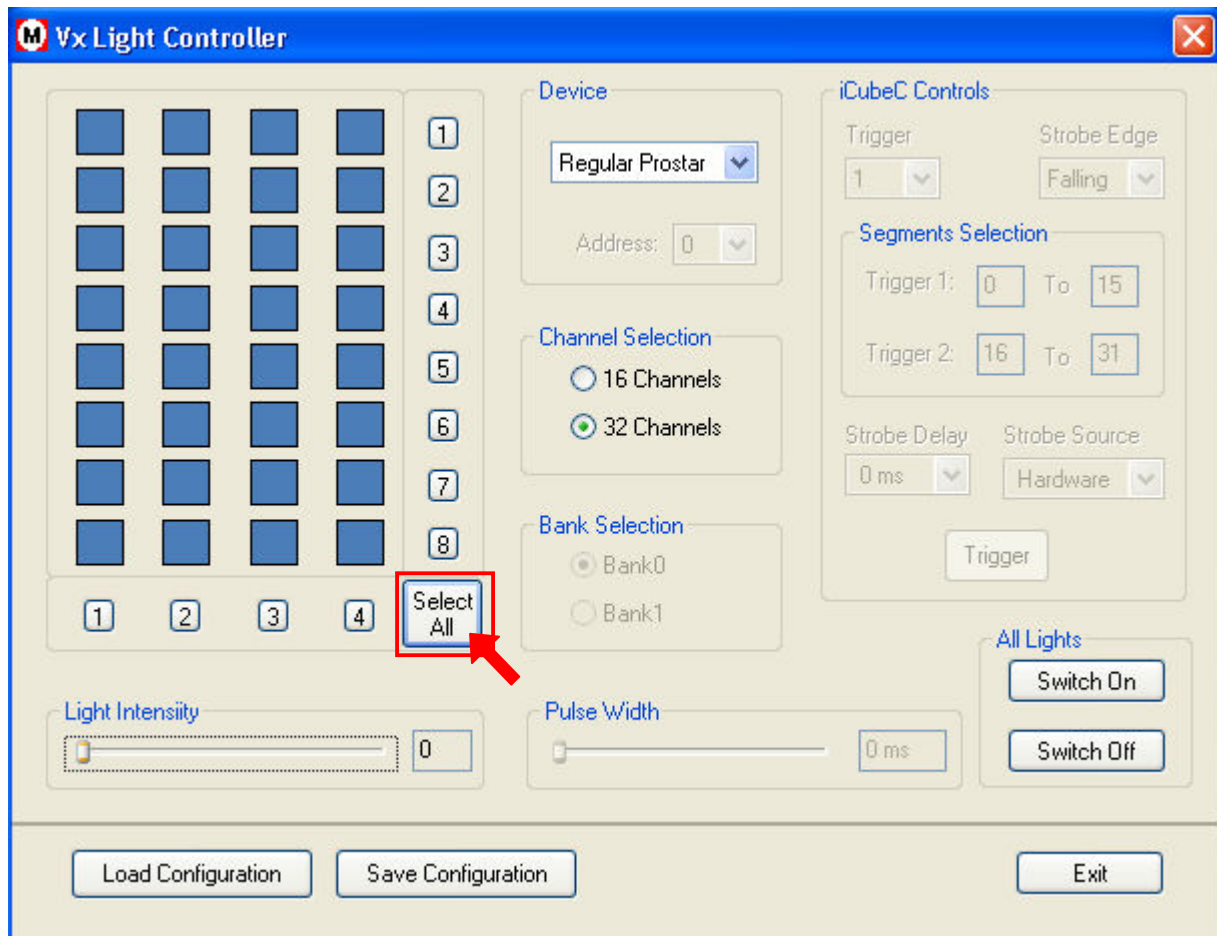

Fig 4.9: Selection of all lights
- All lights (i.e. all controllers and channels) are selected by simply clicking the box as shown in figure 4.9.